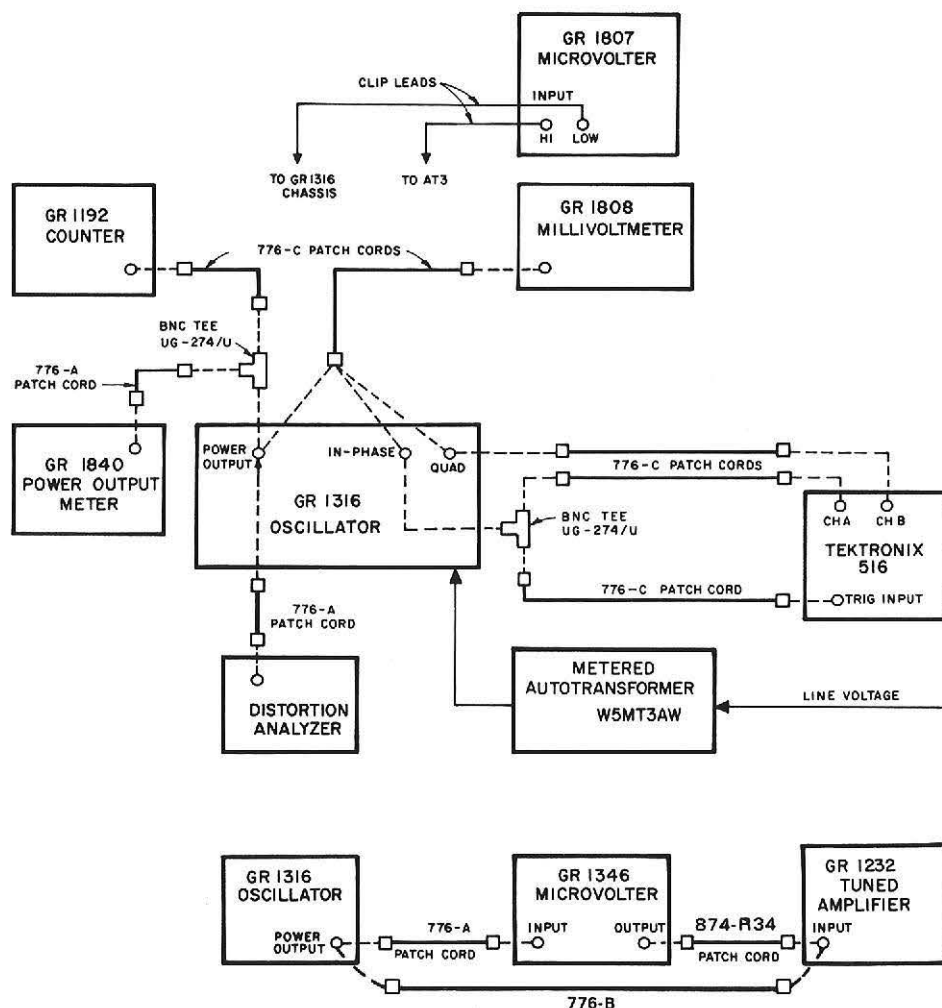

Figure 5-1. Test-equipment setup.
The equipment, methods, and criteria for verifying the specified performance of the oscillator are presented in the following paragraphs. Table 5-1 lists the necessary equipment and Figure 5-1 shows a typical setup for the service and maintenance checks.
a. Connect INPUT A of the 1192 Counter to the POWER OUTPUT jack (Figure 5-1). Set the counter controls to measure period with a  $100\text{-}\mu\text{s}$  gate time.
c. Connect the Millivoltmeter to the POWER OUTPUT jack (Figure 5-1).
a. Connect the Type 1840 Output Power Meter to the POWER OUTPUT jack. (Figure 5-1).
- Connect the instruments as shown in Figure 5-1.